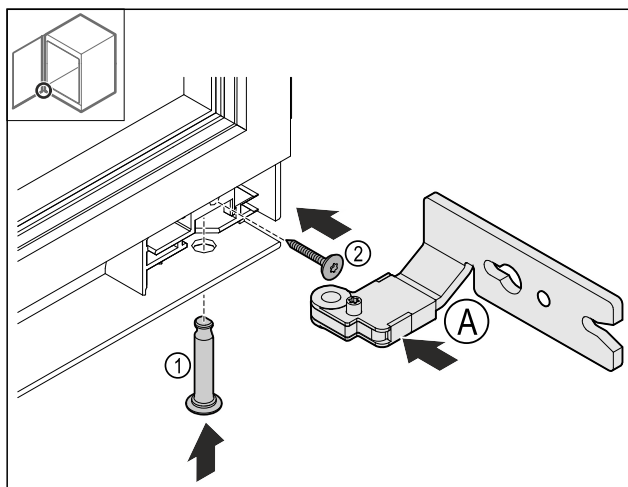

Fig. 27
- Insert the bottom hinge Fig. 27 (A).
- Insert the pin Fig. 27 (1) and hold it.
- Tighten the screw Fig. 27 (2).